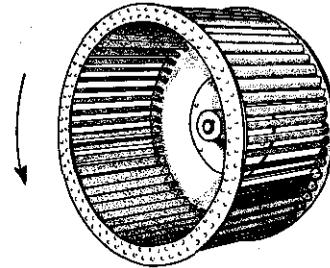

Fig. 3 - Forward Inclined Blades Viewed from Inlet Side
1.04 Centrifugal fans are classed, depending on the inclination of the rotor blades, into two general types as illustrated by Figs. 3 and 4.